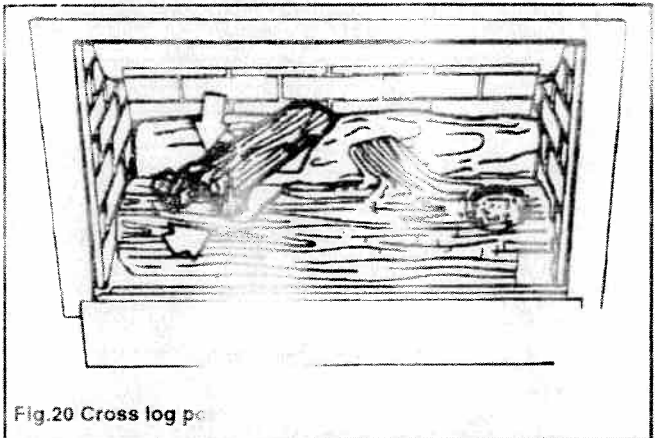

Fig.20 Cross log position
- 15.5 Place the cross log in position. The front of this log is indicated by the letter "F" crossed underneath. Make sure that the front of the log is seated inside the hollow in the front log and is not raised in front of it (see figure 20).